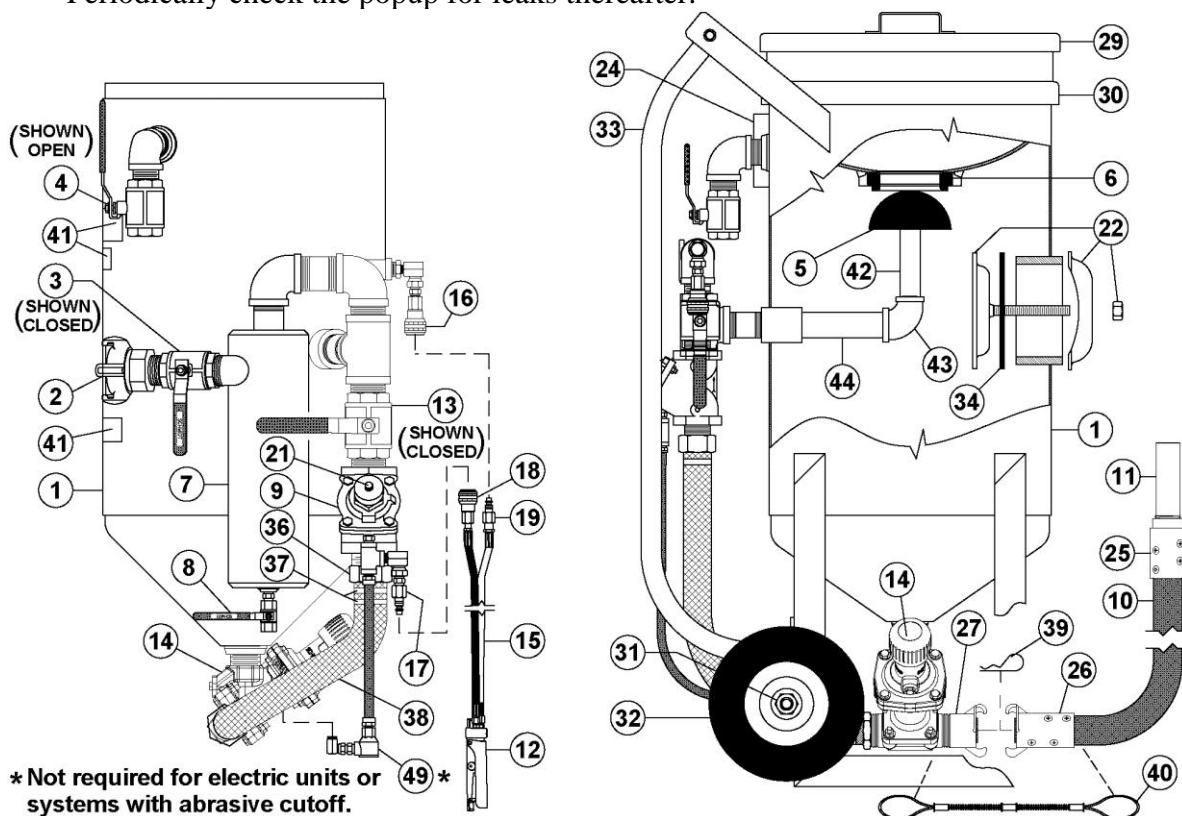

Figure 7.1 – Tera Valve™ Abrasive Blaster with pneumatic blast controls
- 7.1.2. Remove the vessel lid (#29) and screen (#30) to check that the popup (#5) has dropped open. The open popup indicates that the blast vessel is depressurized. See Figure 7.1.
7.2 Beginning the Blasting Operation (See Figure 7.1 and 7.2)
- 7.2.6. Close the blowdown ball valve (#4). The ball valve is closed when the handle is perpendicular to the body (See Figure 7.1 or 7.2).